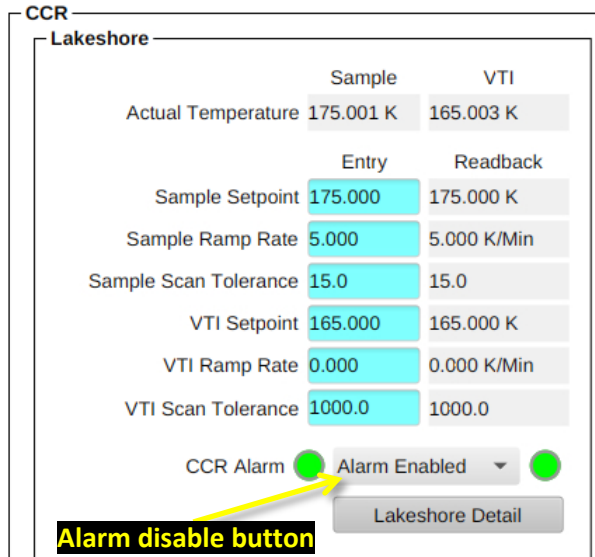

Figure 1. Lakeshore controls on the dashboard.
- b. Disable alarm by clicking the “Alarm Enabled” button in the LakeShore box on the dashboard (Figure 1).
- q. Re-enable alarm by clicking the "Alarm Disabled" button in the Lakeshore box on the dashboard (Figure 1).